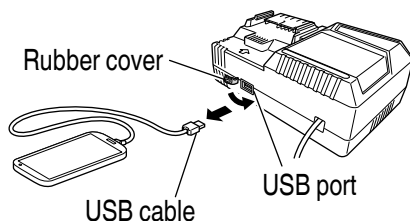

Fig. 27
- (3) When charging is completed
- Unplug the power cord from the electrical outlet. **(Fig. 27)**